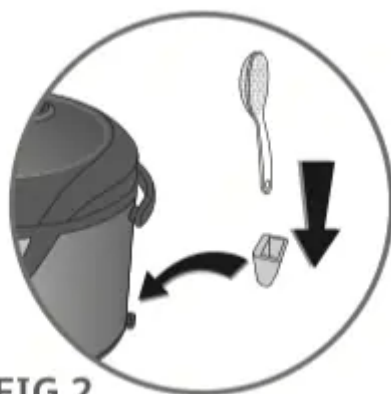

FIG.2
- Install the spoon support: insert the plastic hook of the support in the hole located at the base of the product, and slide it downwards – Fig.2.